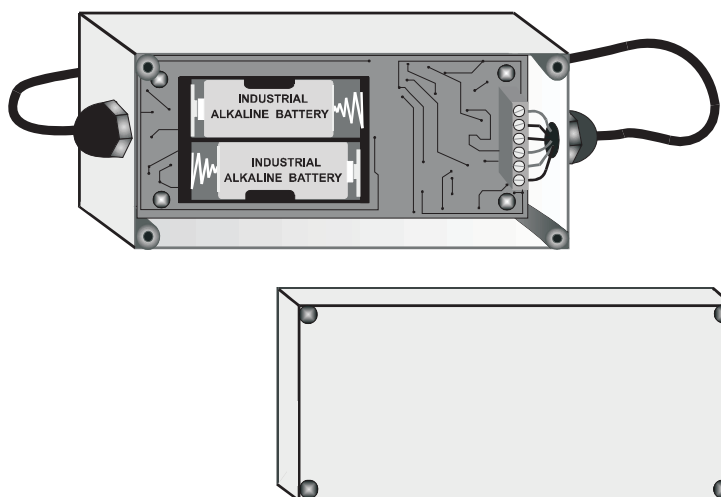

Figure 32 Replacing RS232 Batteries
1. Remove the cover from the RS232 interface (Figure 32).